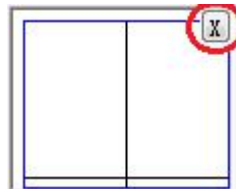

Fig 2.5.8 Zone group 2 small view and delete button
- Click the delete button in top right corner of the view, as shown in Fig.2.5.8, then the drawing zone can be cleared.